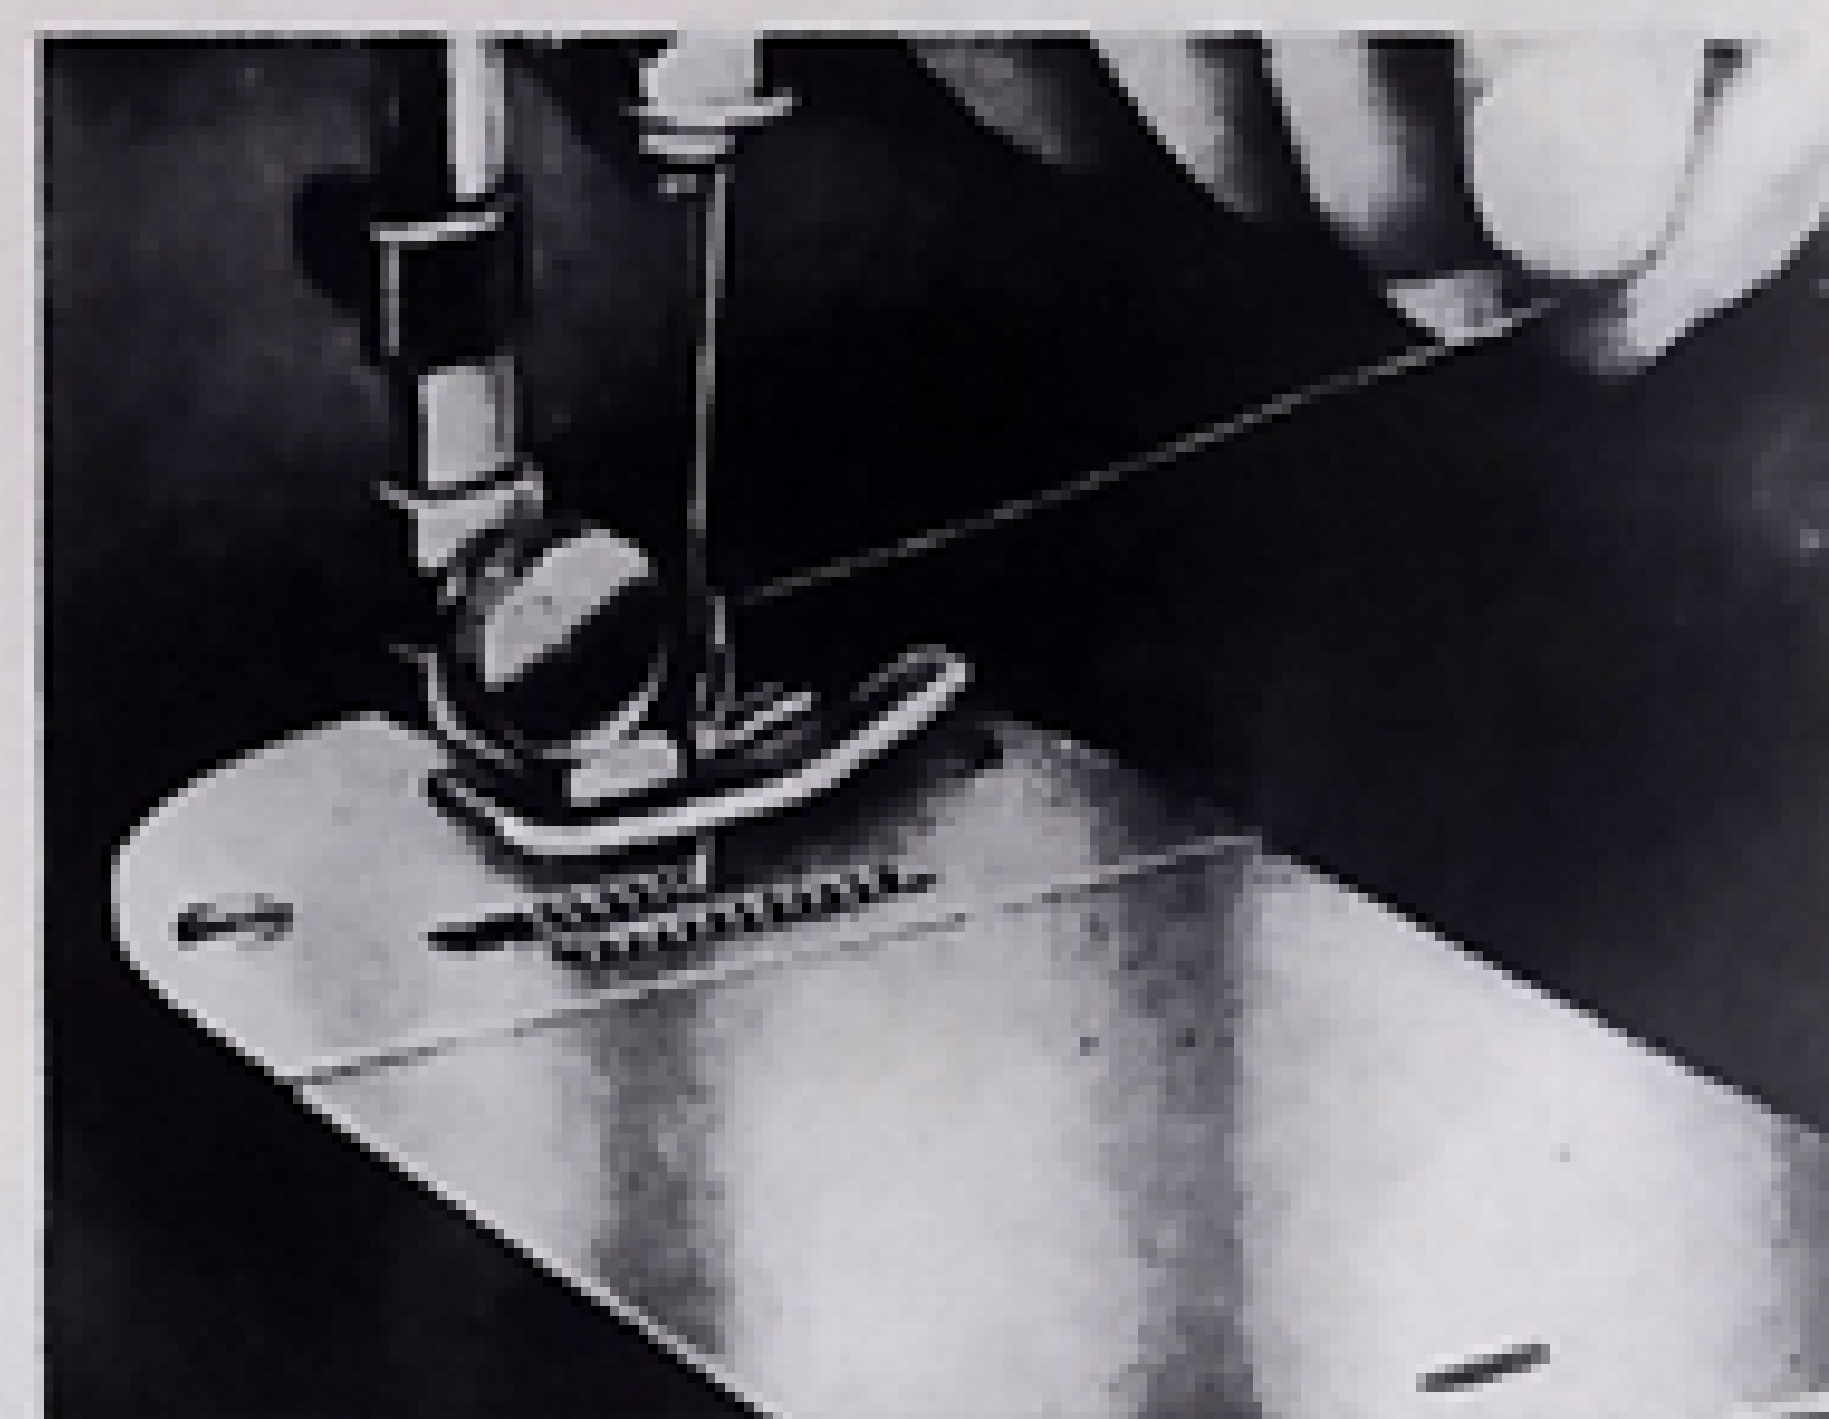

Fig. 12
4. Pull the thread you are holding gently and it will bring up the bobbin thread, as shown in Fig. 12 on Page 11.
5. Lay both ends of the thread back under the presser foot (10).